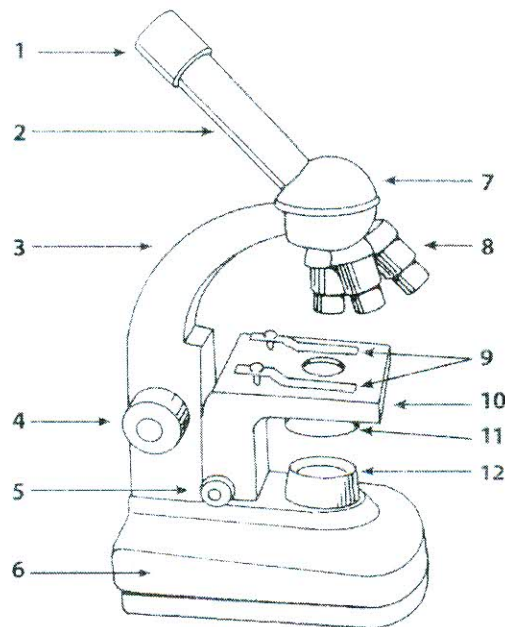

Figure 1 - Compound light microscope
2. [a] Label each part of the compound light microscope shown in Figure 1. State the function of part 1, 3, 8, 4, 5, 10, 11 and 12.